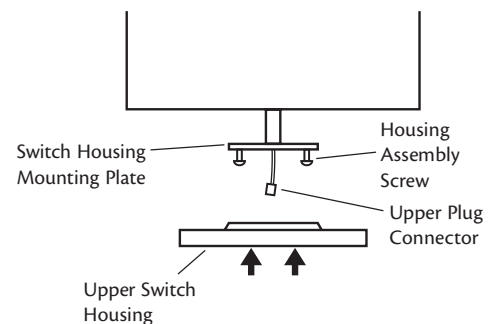

Figure 25 - Attaching the upper switch housing to the mounting plate
1. Partially install two #6-32 x 3/8" housing assembly screws into the switch housing mounting plate as shown in Figure 25.
2. Feed the upper plug connector through the center opening of the upper switch housing. See Figure 25.